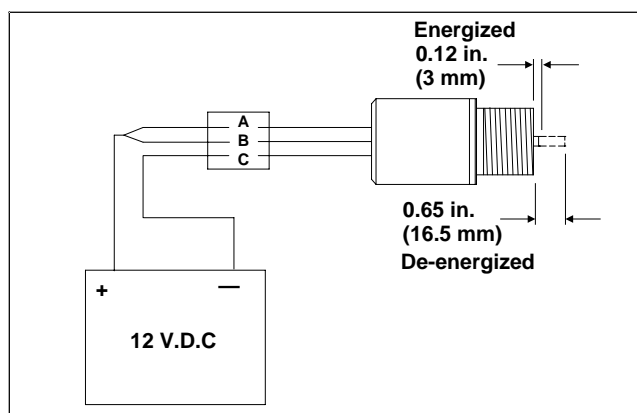

Figure 22
2. Connect a 12 volt battery so the positive (+) battery terminal is connected to terminals A (hold) and B (pull) (Fig. 22). Connect the negative (–) battery terminal to solenoid terminal C (common). The plunger should retract to the dimension shown.